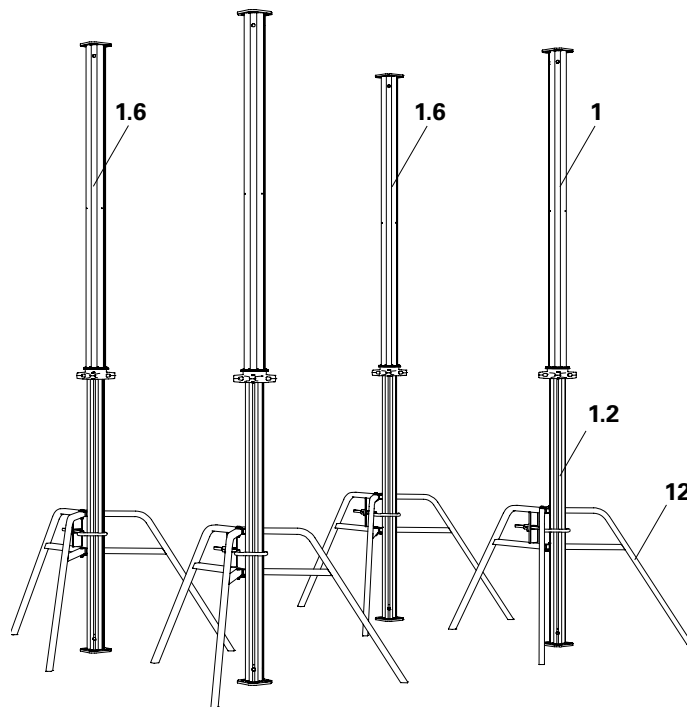

Fig. A4.01
- The measuring scale (**1.6**) is pointing inwards. (Fig. A4.01)